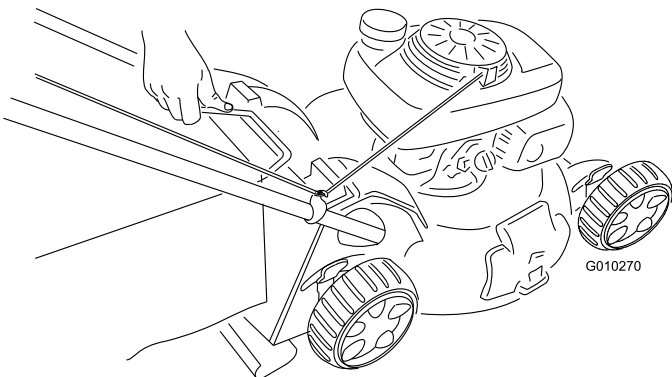

Figure 30
2. Lift the grass bag handle out from the grooves at the top of the mower and remove the bag from the mower (Figure 30).